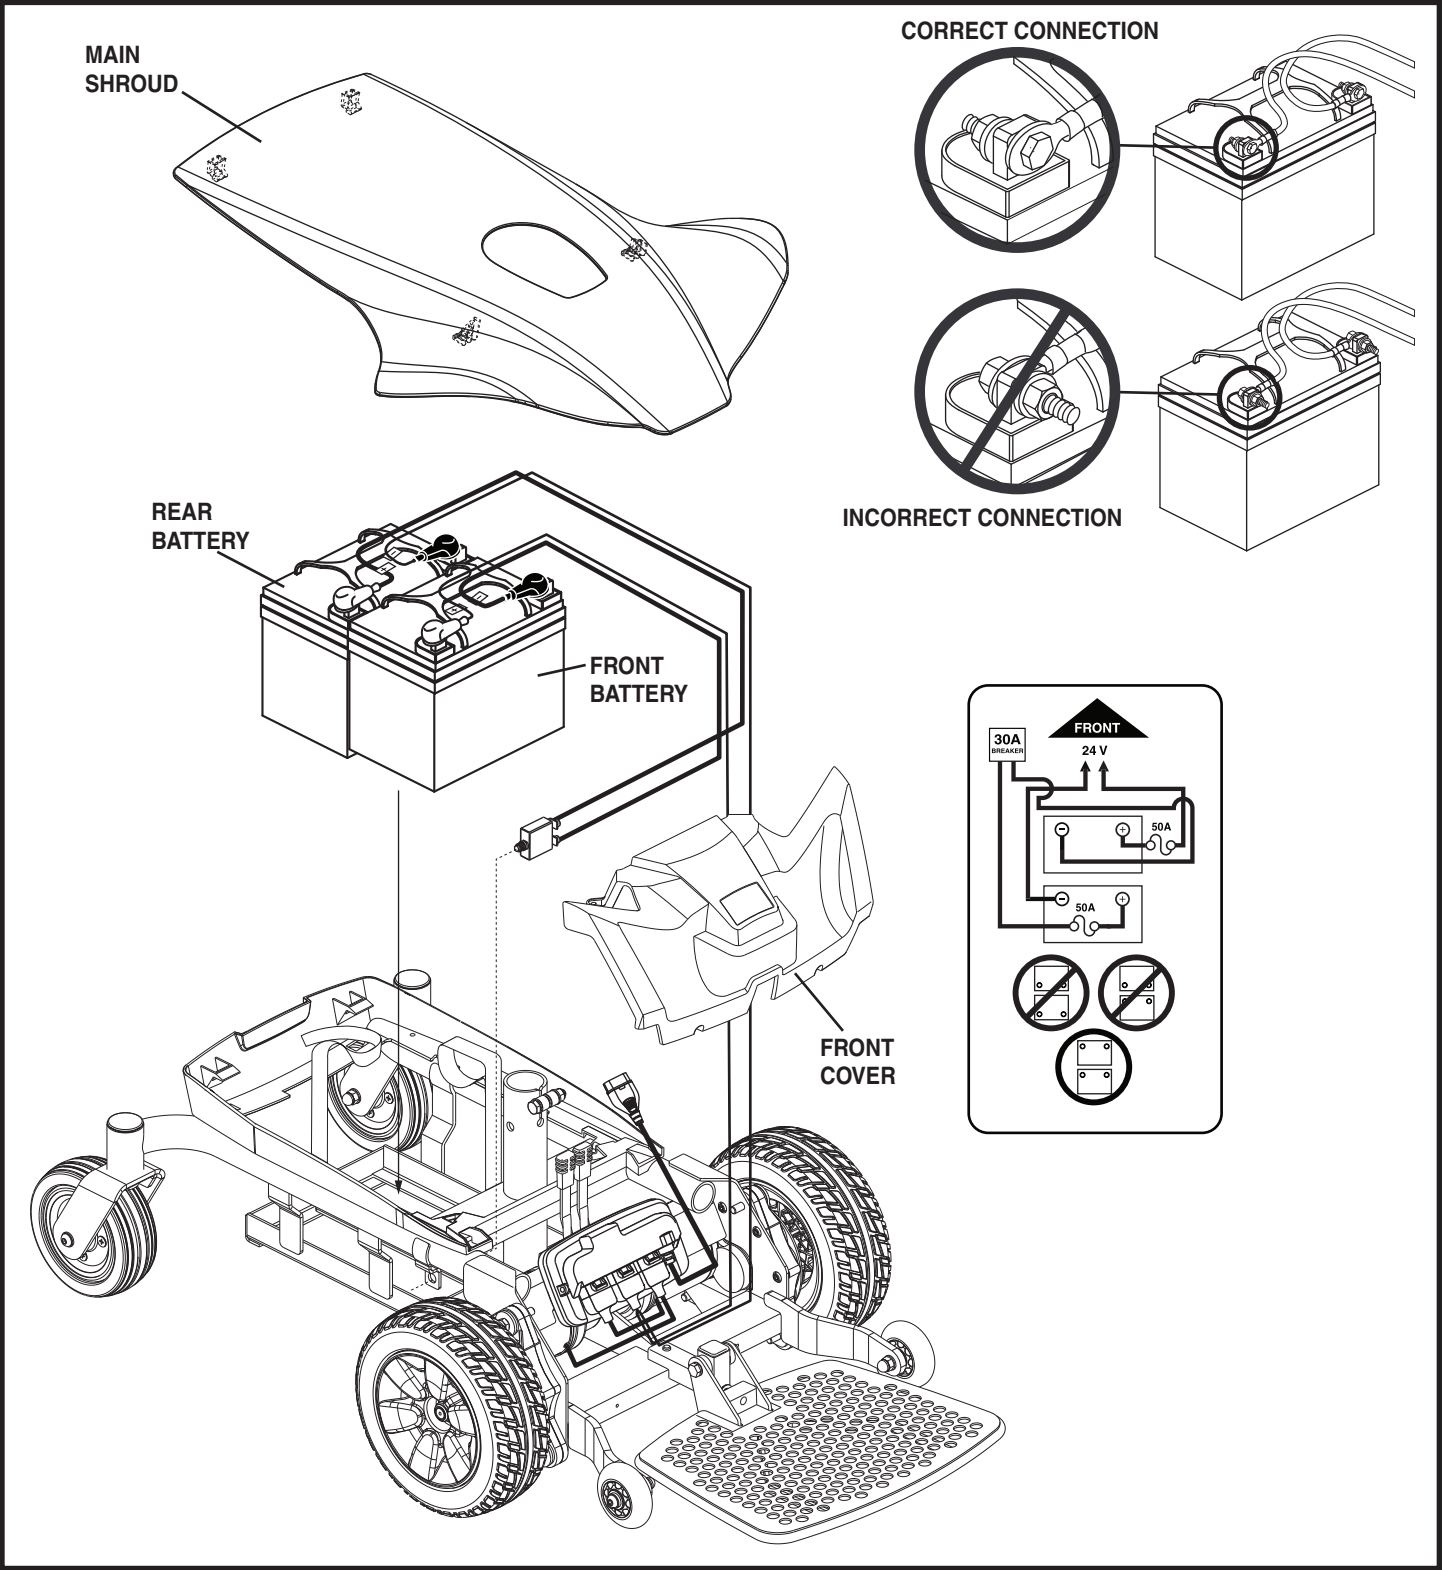

Figure 18. Battery Installation (Seat Removed for Clarity)
4. Remove the main shroud by lifting the rear of the main shroud until it disconnects from the body shroud. Once disconnected from the body shroud, slide the main shroud forward until the tabs are free from the body shroud. Lift the shroud up and over the seat post. **See figure 18.**
5. Unfasten the battery strap. **See figure 18.**
6. Disconnect the battery cables from the battery terminals of each battery. **See figure 18.**
8. Install new batteries into the battery tray. Make sure the terminals of each battery are facing the front of the power chair. **See figure 18.**
9. Connect the front battery cable to the front battery terminals according to the battery wiring diagram. Make sure that the battery terminal hardware is facing the correct direction. **See figure 18.**